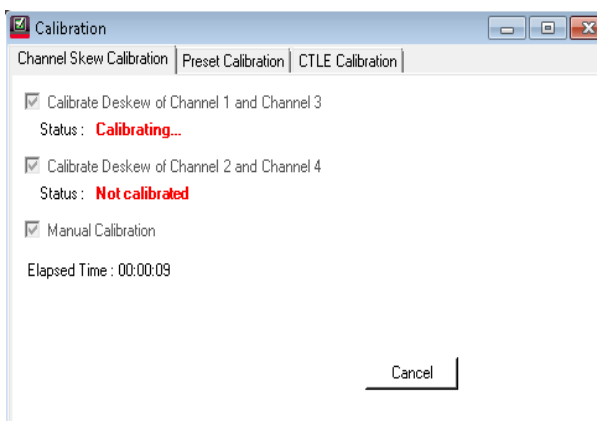

Figure 69 Calibration Status changes
- 4 When you click **Done**, the **Calibration** window displays again with the updated Status along with the time elapsed during this process, as shown in Figure 69: